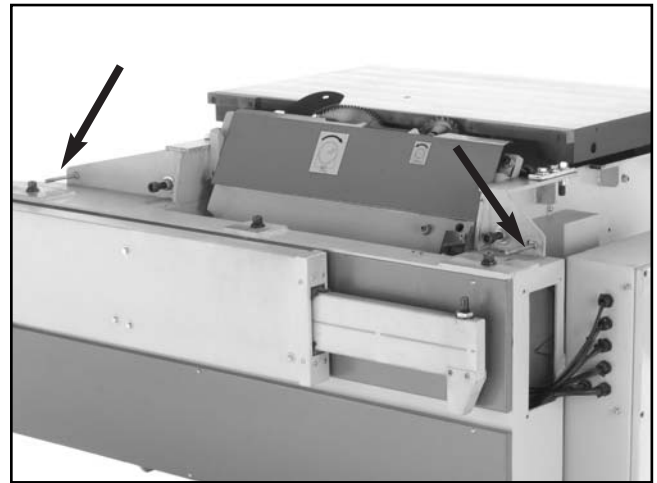

Figure 26. Parallel adjustment bolts.
3. Back out the parallel adjustment bolts shown in **Figure 26**, but do not completely remove them or the jam nuts that are installed on them.